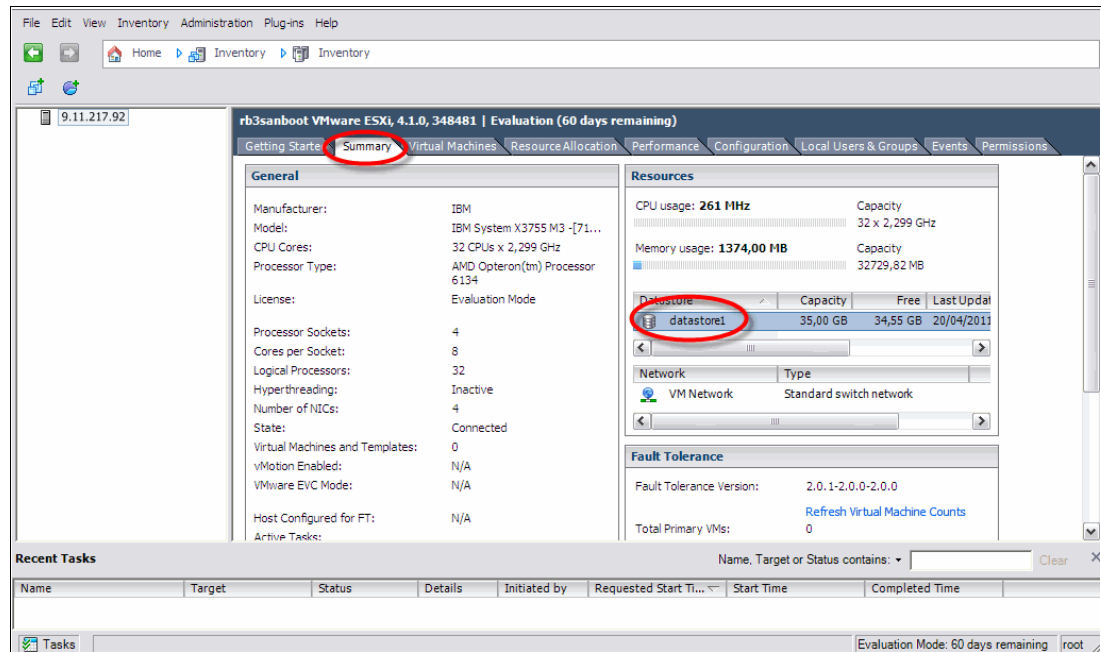

Figure 3-92 Checking the DataStore created
16. To check the multipaths and the DS8000 LUNs associated with this server, click **Summary** and then select the data storage created, as shown in Figure 3-92.